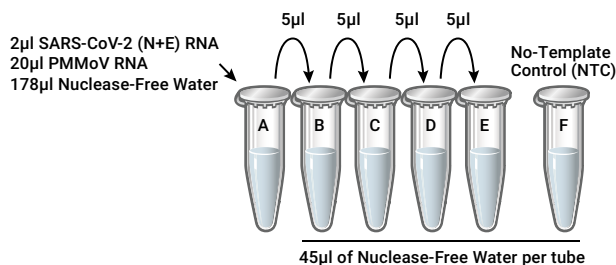

Figure 1. Dilution scheme for combined SARS-CoV-2 (N+E) and PMMoV RNA standards.
2. Add 2 μ l of SARS-CoV-2 (N+E) RNA and 20 μ l of PMMoV RNA into 178 μ l of Nuclease-Free Water, resulting in a final concentration of 4×10^4 SARS-CoV-2 (N+E) copies/ μ l and 4×10^5 PMMoV copies/ μ l (Tube A in Table 1 and Figure 1).
3. Prepare serial tenfold dilutions in low-binding 0.5ml tubes. For example, combine 5 μ l of RNA with 45 μ l of Nuclease-Free Water to obtain the following standard curve dilutions: 4×10^4 –4 SARS-CoV-2 copies/ μ l and 4×10^5 –40 PMMoV copies/ μ l (see Table 1 and Figure 1). Vortex each dilution for 3–5 seconds prior to removing an aliquot for the next dilution. Change pipette tips between dilutions.
Table 1. Standard Curve of SARS-CoV-2 (N+E) and PMMoV RNAs Shown in Figure 1.